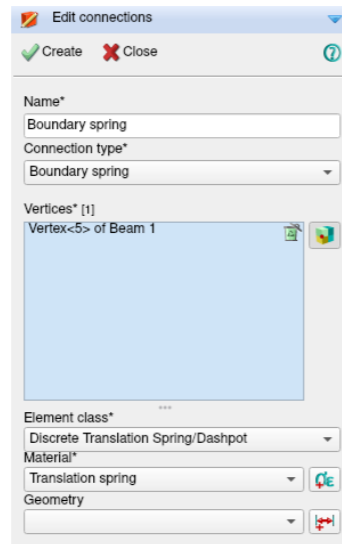

Figure 5: Boundary spring connection
**Main menu** → Geometry → Assign → Connections  [Fig. 5]